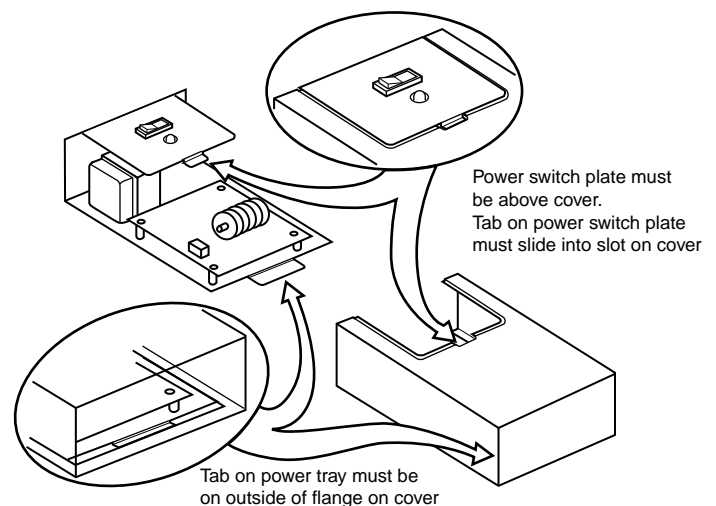

Figure 14. Assembling Power Tray and Cover
4. After servicing the ozone switch or after replacing a faulty power tray, reassemble the cover and power tray. When reassembling, be sure that power switch plate is on the outside of the cover and the tab on the power switch plate slides into the opening on the cover. Be sure also that tab on bottom of power tray is on the outside of the cover (see fig 14 ).